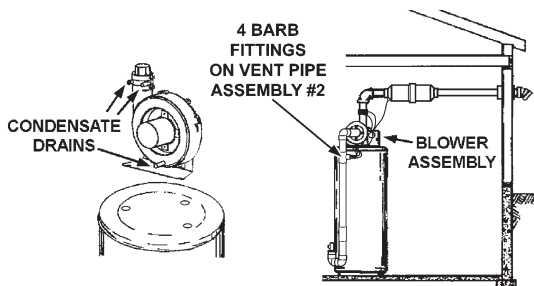

FIGURE 17.
3. The blower discharge adapter is made to accept only straight sections of 2" pipe. To start, a minimum of 2 inches (5.1 cm) of 2" pipe must be attached to the blower discharge, see Figure 17.
4. There will be some installations where condensate will be formed in the horizontal runs of the vent system. This condensate will run into the condensate boot attached to the blower and out the fitting. The water heater is shipped with condensate hose that attaches to the fitting on the condensate boot. No other Tee or fitting is required. See Figures 17, 20 and 21.
This water heater is a condensing unit and requires a drain to be located in close proximity to allow condensate to drain safely. One hose from blower housing, two flexible hoses from blower outlet adaptor, along with another flexible hose from VAA if installed, run to barb fittings on vent pipe assembly #2. Hose is clamped by rubber clips and flexible hoses by a clamp on jacket top cover. See Figure 17. Condensate drains from the unit at the exhaust tee located at the bottom of the unit (see figure 16). Condensate from this water heater is mildly acidic. Please note that some local codes require that condensate is treated by using a pH neutralizing filter prior to disposal.
Condensate is likely to form in the venting system attached to this water heater. The vent pipe should be sloped downward away from the blower assembly (not less than 1/8" (3.2 mm) nor greater than 1/2" (12.7 mm) per foot (30 cm) maximum). If the vent piping is vented level or sloped upwards away from the blower assembly, then adequate means for draining and disposing of the condensate needs to be made by the installer. Two 3/8" condensate hoses should be connected to the built in drain ports of blower outlet adaptor. If a VAA is installed, a 3/8" condensate hose should be connected to the barb fitting on it; otherwise the unused barb fitting on vent pipe assembly #2 should be plugged with one of the break-away plugs. See Figure 17.
3. Condensate drains from three locations on blower assembly. See Figure 17. One flexible hose runs from bottom of blower housing; two run from the ports of rubber boot vent adaptor at the outlet of blower. All these three condensate hoses are connected to barb fittings at vent pipe assembly #2. The hose from bottom of blower housing is clamped by two clamps and the two hoses from rubber connector are harnessed by another clamp. Make sure there is no kink or twist.